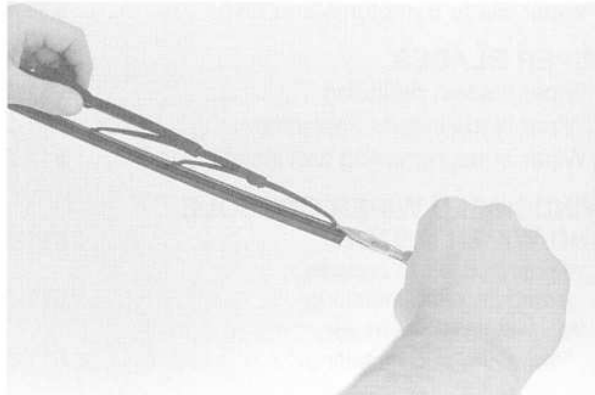

Fig. 3. Wiper blade insert being removed from end of guides.
2. Unhook end of wiper blade insert from wiper arm guides. See Fig. 3.